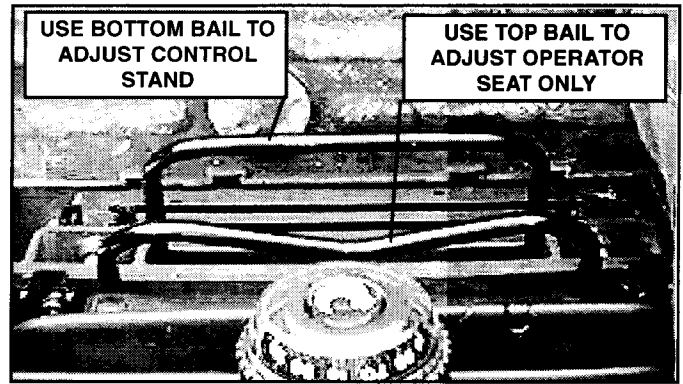

FIGURE 2.49
d. Seat Front to Back Adjustment – FIGURE 2.49